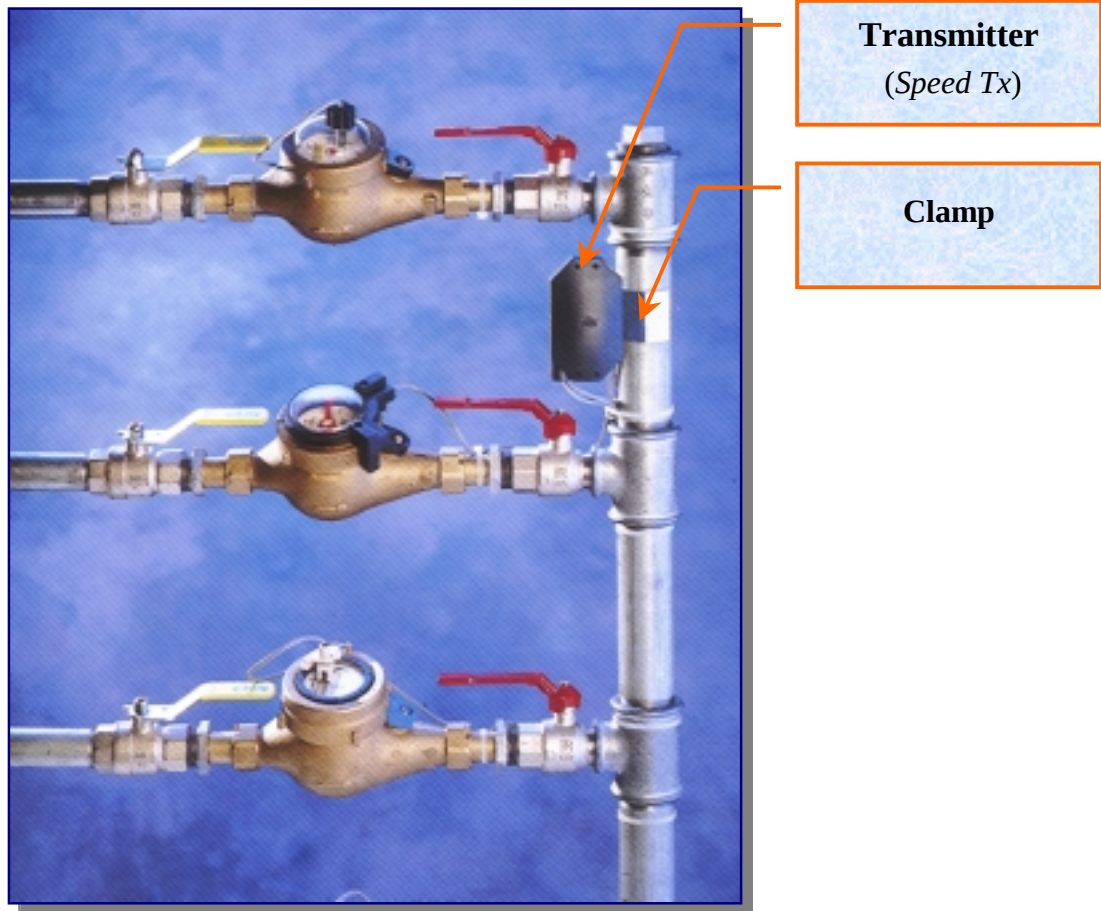

Figure 2-1: Speed Tx Typical Installation
Figure 2-1 (see next page) shows a typical installation of a **Speed Tx** unit, connected to several meters (of various types) at a single location. The unit can be connected to any type of meter which has a pulsed output (a passive magnetic open/short reed relay).
- a. For pipeline installations (as in Figure 2-1), first attach the stainless steel clamp (see Figure 4-1) to the pipeline, close it around the pipeline and fasten the screw in the middle of the device. Place the unit's box base on top of the screw and install it using two steel screws.